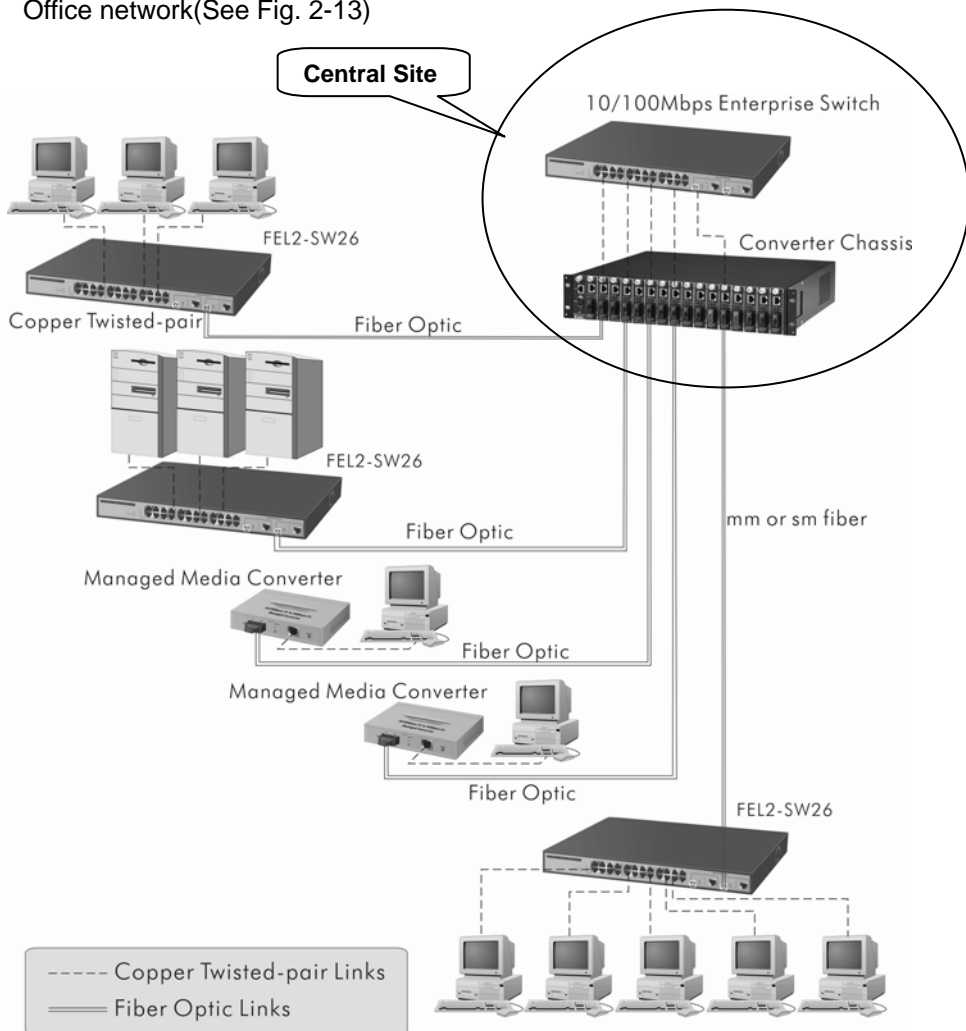

Fig. 2-11 Network Connection between Remote Site and Central Site
- Central Site/Remote site application is used in carrier or ISP (See Fig. 2-11)
Fig. 2-11 is a system wide basic reference connection diagram. This diagram demonstrates how the switch connects with other network devices and hosts.